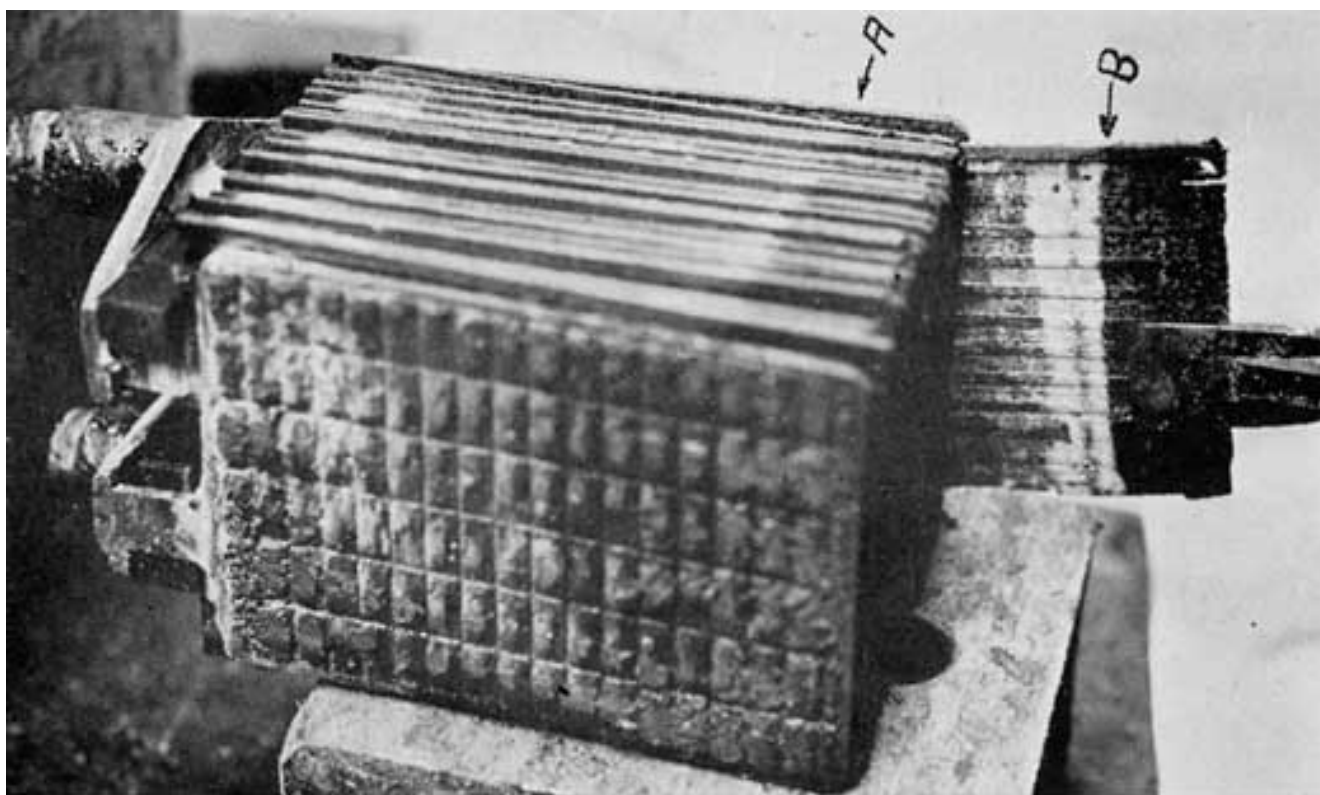
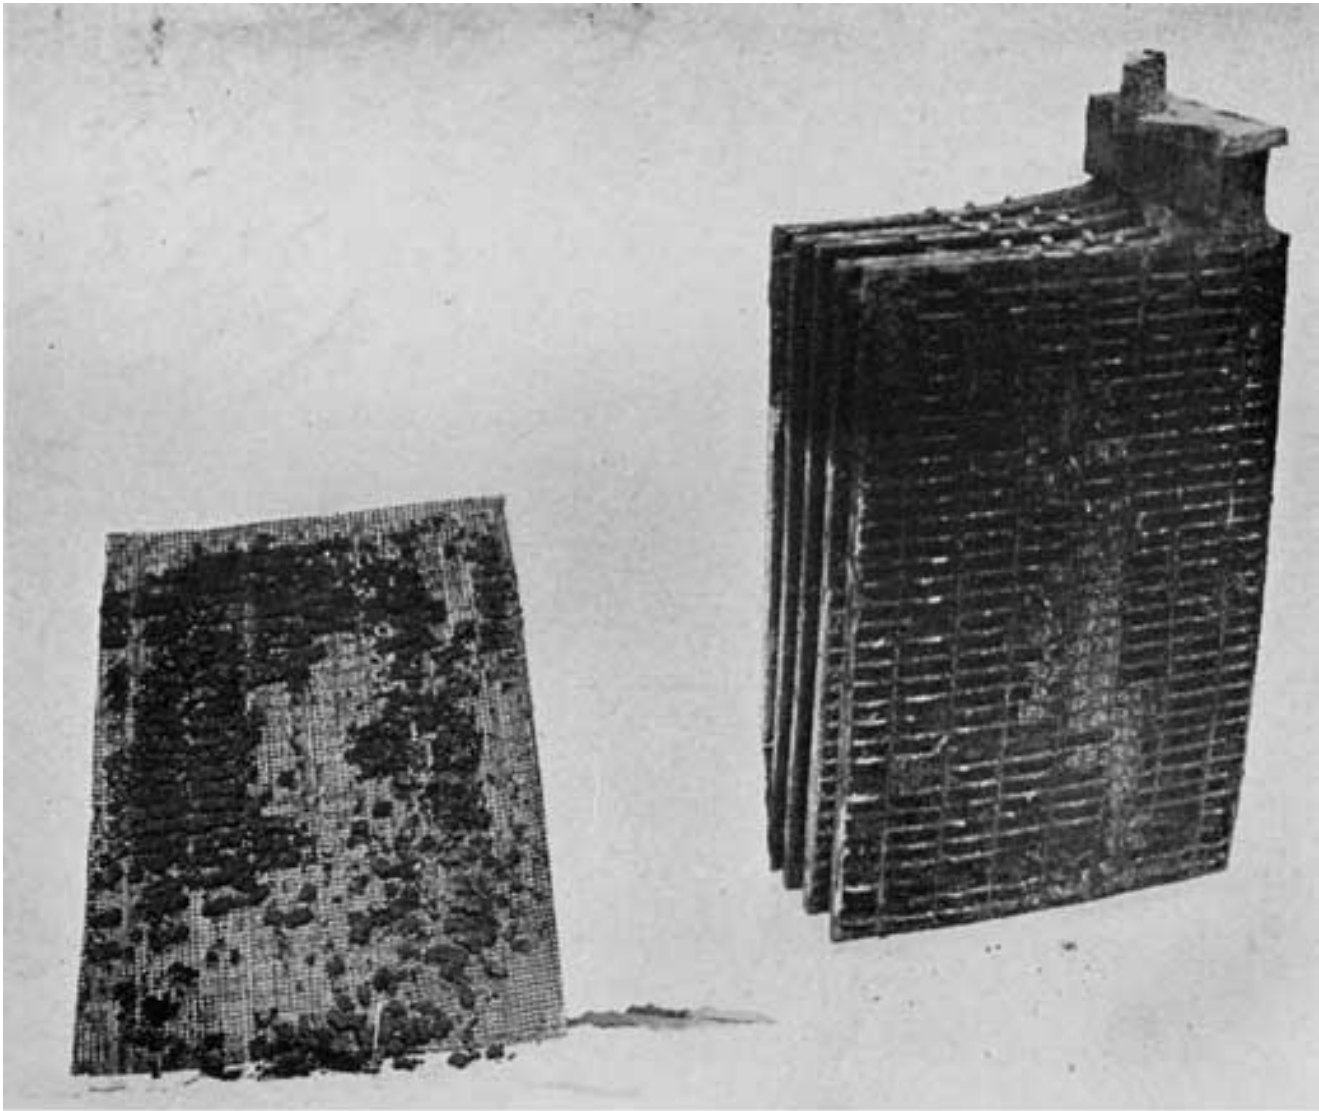

Fig. 201. Element on Block for Examination
Fig. 203. Positives from Frozen Vehicle Cell. Note Active Material Sticking to Separator
Place an element on a block of wood as shown in Fig. 201. Carefully pry the plates apart so that you can look down between them and make a fair preliminary examination. Whenever possible, make your examination of the plates without separating the groups or removing the old separators. This should be done because:
1. If one or more jars are cracked and leak, and positive plates have been ruined by freezing, as shown in Fig. 203, and if upon drawing out the separators, and separating the positive and negative groups the active material drops out of the grids, the only way to put the battery in a good condition is to put in 'new positives, and new jars and case if necessary.
4. A battery which has been dry and badly sulphated at some past period of its life will have tile dry portion.", covered with a white sulphate, tile acid line being clearly distinguishable by this white color, as shown at A and B in Fig. 201. If the plates are otherwise ill good shape and you wish to use them, give them the "water cure" described on page 349.
7. Dry, hard, and white, long discharged, and badly sulphated plates, Figs. 201 and 209, are practically ruined, though if the trouble is not of long standing, the plates may be revived somewhat by a long charge at a very low rate, using distilled water in place of the electrolyte, and then discharging at a current equal to about one-eighth to one-tenth of the ampere hour capacity of the battery at the discharge board. Charge and discharge a battery a number of times, and you may be able to put a little "pep" into it. In charging sulphated plates, use a low charging rate, and do not allow gassing before the end of the charge, or a temperature of the electrolyte above 110°F.
1. Whenever the pores are closed by any foreign matter whatsoever. Put in new separators whether you can figure out the cause of the trouble or not. The separator shown in Fig. 201 is sulphated clear through above the line B, and is worthless. The separator shown in Fig. 203 should not be used again.
One Shows Cell Was Dry Two Thirds of the Way Down electrolyte has been below the tops of the plates, or the battery has been used in a discharged condition, and lead sulphate has deposited on the separators, Fig. 201.
2. There is another case where the groups must be separated and new separators inserted before they will take charge, and that is where the battery has suffered from lack of water and has sulphated clear through the separators, Fig. 201. The separators will be covered with white sulphate. Chemical action is very sluggish in such cases.